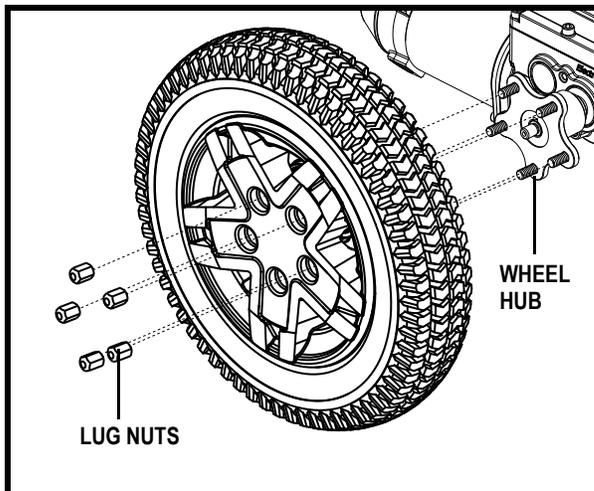

Figure 23. Q6 Edge Drive Wheel
4. Remove the (5) lug nuts from the wheel hub. See figure 23.